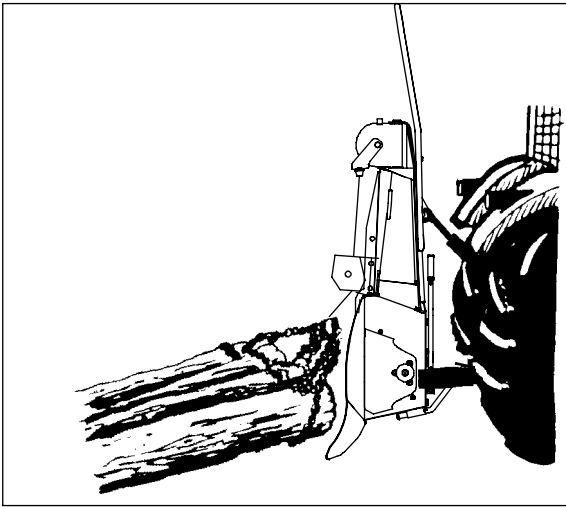

Fig. 12. Winching over the lower diverting pulley
3. Raise the 3-point hitch so that the logs come off ground (fig. 12.).